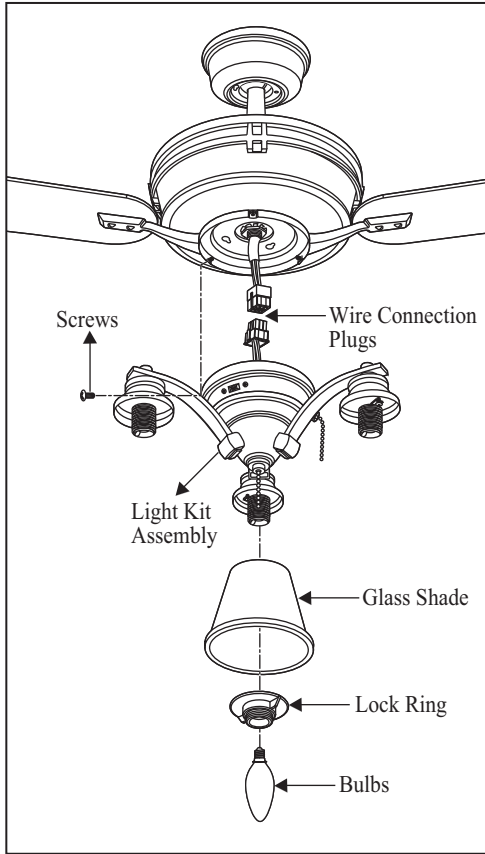

Figure 17
2. While holding the light kit assembly under your fan, snap together the wire connection plugs. (Fig. 17)
3. Carefully push all wires back into the switch housing, then install the light kit assembly onto the mounting plate with 3 screws provided. Be sure to tighten all screws. (Fig. 17)
4. Remove the lock ring from the socket by turning the lock ring clockwise until it unlocks. Insert the glass into the glass holder and turn the lock ring counter-clockwise to tighten the glass. Repeat for the remaining glass. (Fig. 17)